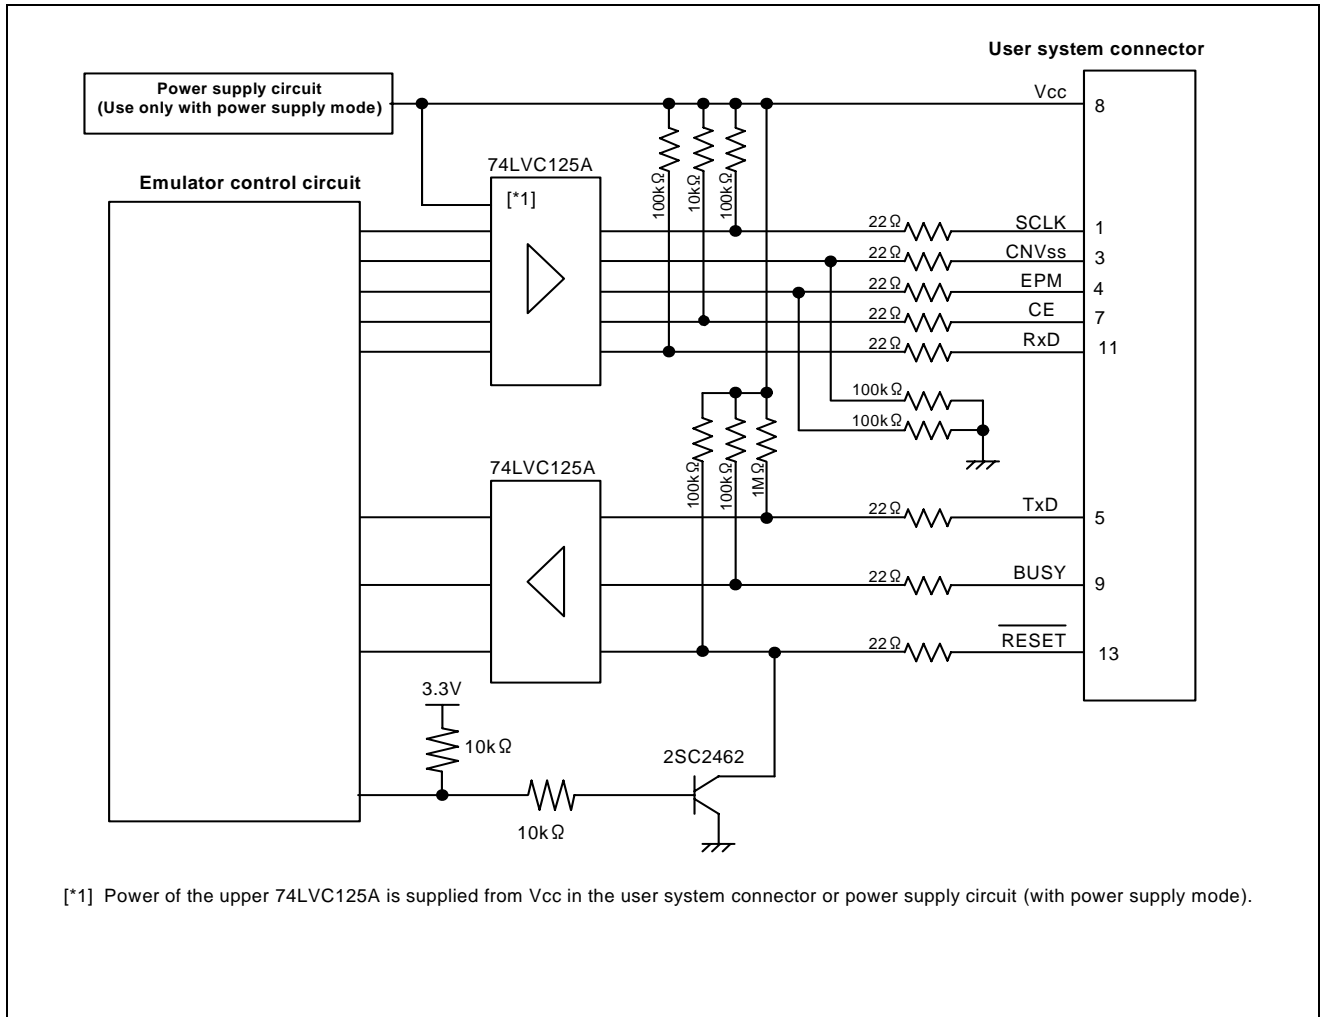

Figure 4.12 Interface Circuit in the E8 Emulator (Reference)
10. Figure 4.12 shows the interface circuit in the E8 emulator. Use this figure as a reference when determining the pull-up resistance value.